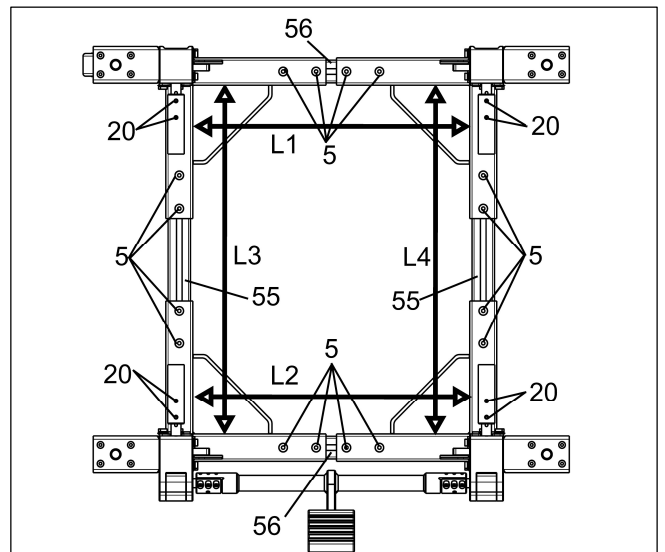

Fig.16
d. Loosen the fasteners “5” to adjust the length of the corner brackets so that the length at the arrows is 1/4”~1/2” longer than the machine base; then tighten all fasteners “5” and “20”. (see **Fig.16**)
2. The distance of L1 should equal L2, and L3 should equal L4 in Fig.16. Repeat step d if needed.